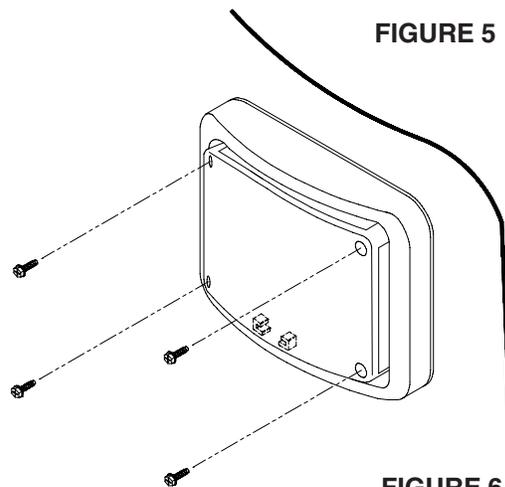

FIGURE 6
9) Attach the lens to the housing using the four #8 x 5/8" stainless steel, sheet metal screws provided (Figure 6). **IMPORTANT:** Similar to step 6, there are slots on the inside of the lens which must capture the Oscilaser base plate.